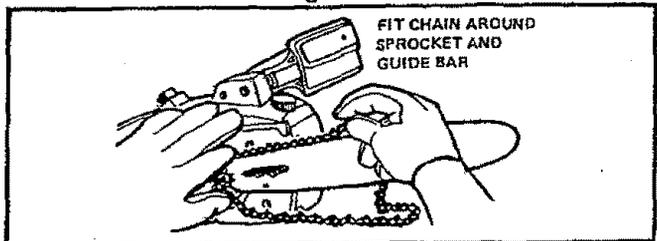

Figure 11
5. Place the chain around the sprocket and fit the drive links into the Guide Bar grooves — first the top and then the bottom groove. Figure 11.